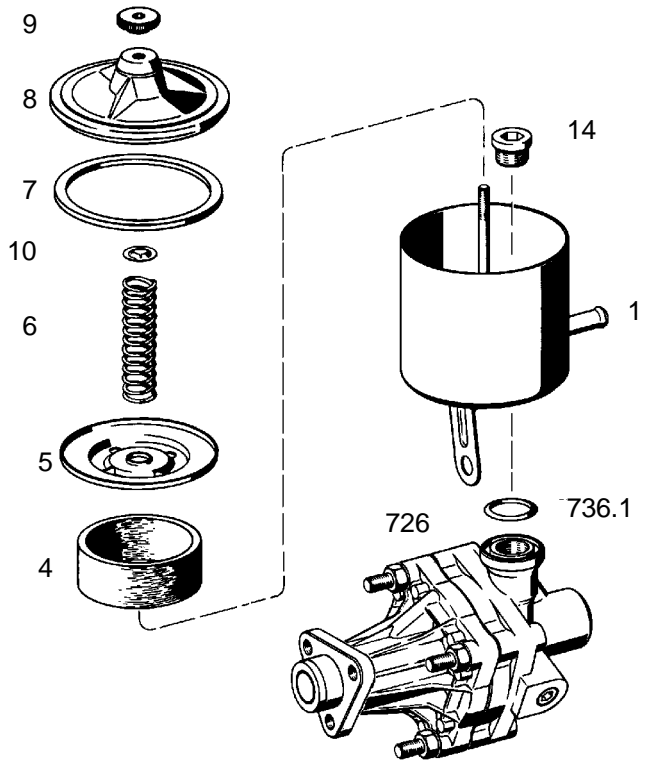

Fig. 35
7.1 Version with locking disk (10)
Fit O-ring (736.1) in cover (726) (**Fig. 35**).